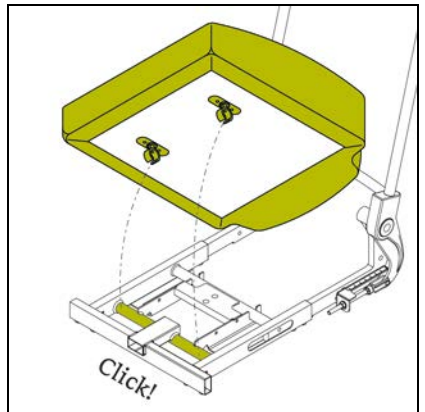

Figure 3.2
**Replacing the seat cushion** (fig 3.2).